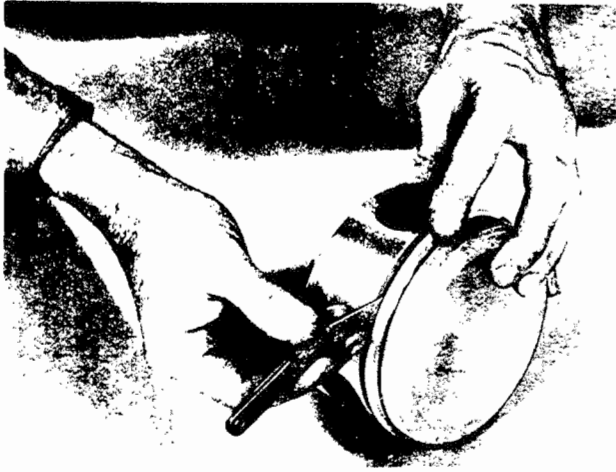

FIGURE 22. INSPECTING PISTON RING SIDE CLEARANCE.
b. Install oil control rings in the third piston grooves. (See Figure 21.) Do not allow ring ends to dig into piston lands. Spread the rings to avoid such damage. Similarly, install second and top compression rings, in that order. The marked sides of all rings are placed toward the piston head. With a thickness gauge, measure the side clearance of all rings. (See Figure 22.) Compare the measured values with side clearances specified in Section XV.